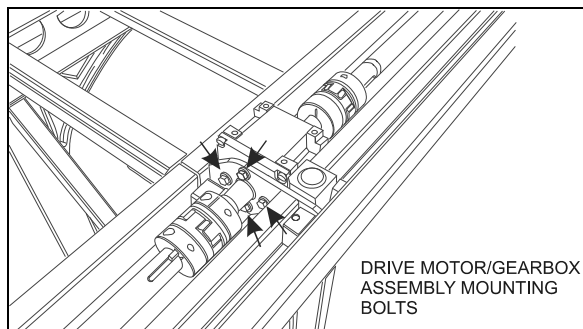

FIGURE 18 : DRIVE MOTOR/GEARBOX ASSEMBLY MOUNTING BOLTS
Inspect the electrical connections and their watertightness. Check that the mounting bolts are tight (Fig. 18).
3. Remove the 4 cap screws securing the drive motor/gearbox assembly and dismount the assembly (See figure 18).